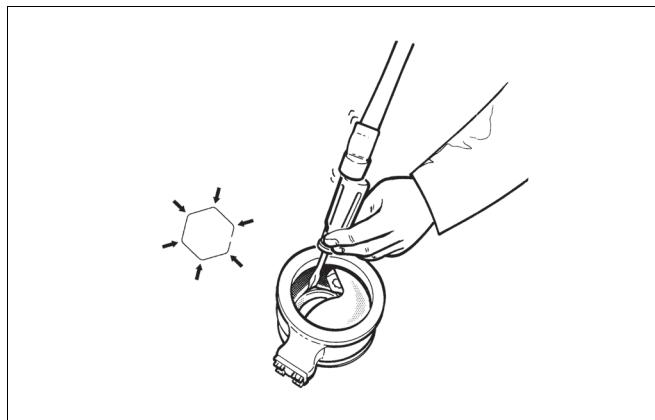

Fig. 20 Knocking the spring into the groove
- Place a screwdriver on each visible spring angle one after the other and knock the spring into the groove, see Fig. 20.
- Turn the segment 180° clockwise and knock the rest of the spring angles into the groove, Fig. 21. A special tool available from the manufacturer may also be used for the work phases in Figs. 20 and 21.